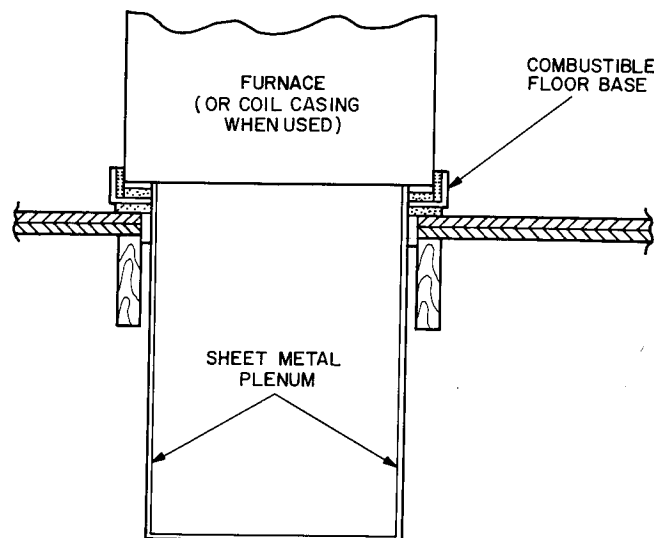

Fig. 7 — Furnace, Plenum, and Base Installed on Combustible Floor
4. When completed, install combustible floor base, plenum, and furnace (or coil casing when used). See Fig. 7.